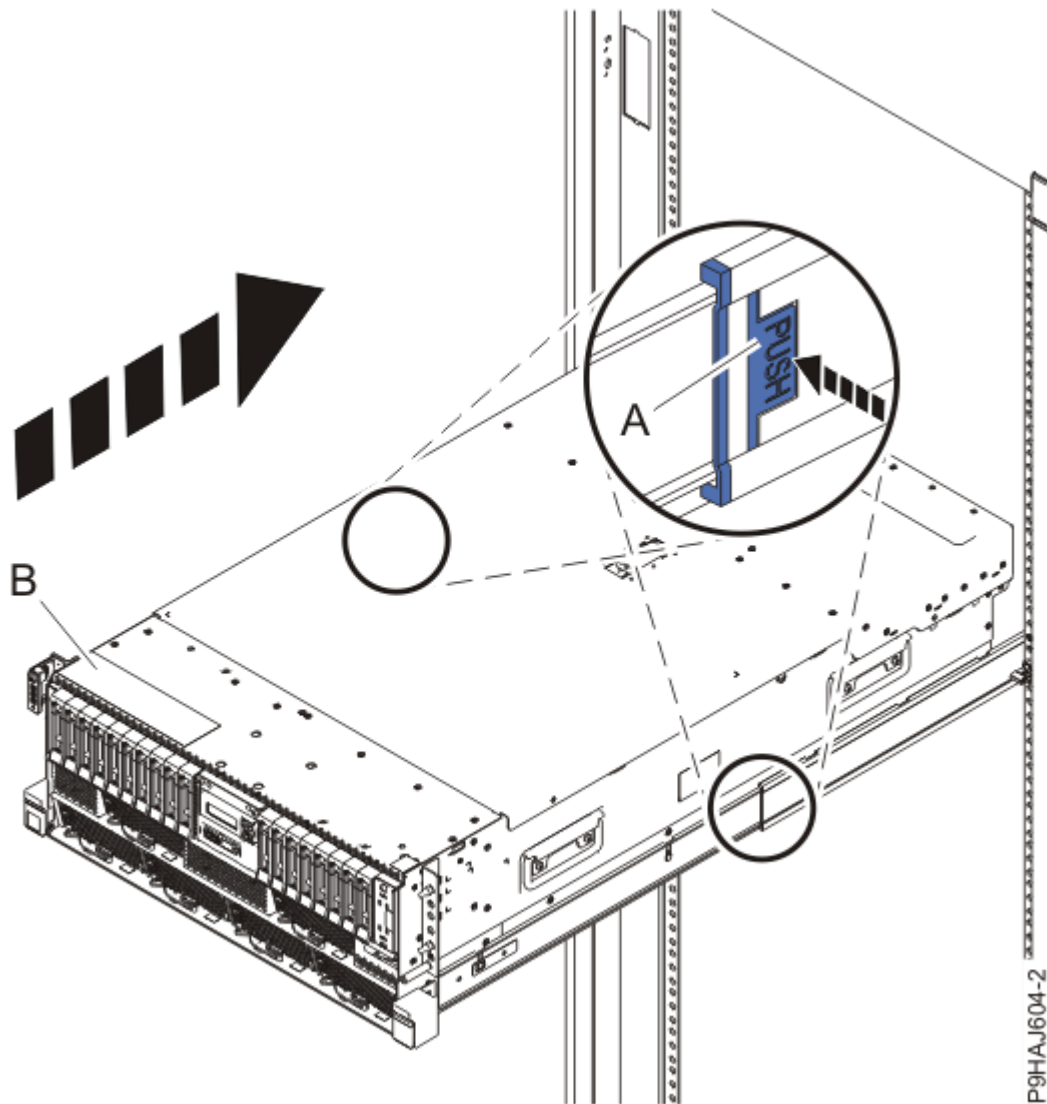

Figure 15. Placing the system into the operating position
3. For a rack-mounted system, unlock the blue rail safety latches (**A**) as shown in Figure 15 on page 18 by pushing them inward.